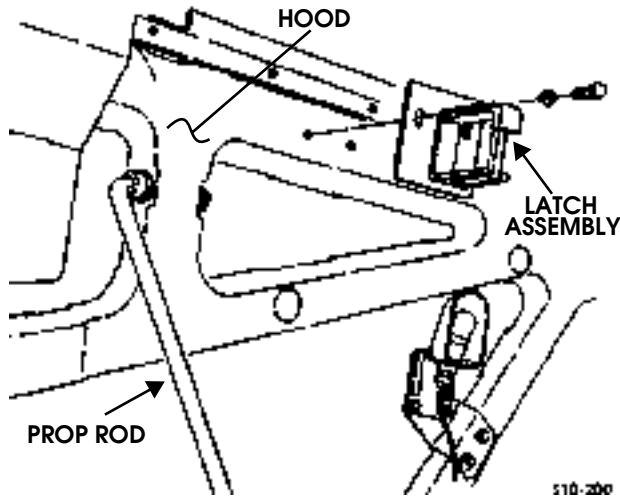

Figure 10-78: Hood Release Latch and Bracket Assembly Mounting
2. Remove two bolts, lockwashers, and latch assembly from hood (Figure 10-78).
6. Secure latch assembly to hood with two lockwashers and bolts (Figure 10-78).